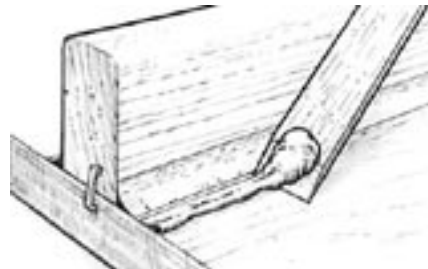

Figure 9-13 Clean up remaining excess epoxy outside of the clean margin before it cures.
3. Clean up the remaining excess material outside the margin by using a sharpened mixing stick or a putty knife (*Figure 9-13*). Glass cloth or glass tape may be applied over the fillet area before the fillet has cured (or after the fillet is cured and sanded).